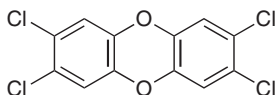

Figure 14.1
- A notorious family of POPs is the dioxins.7 Figure 14.1 shows the most toxic dioxin: 2,3,7,8-tetrachlorodibenzo-*p*-dioxin (also just called dioxin). It is one of the most toxic chemicals known.